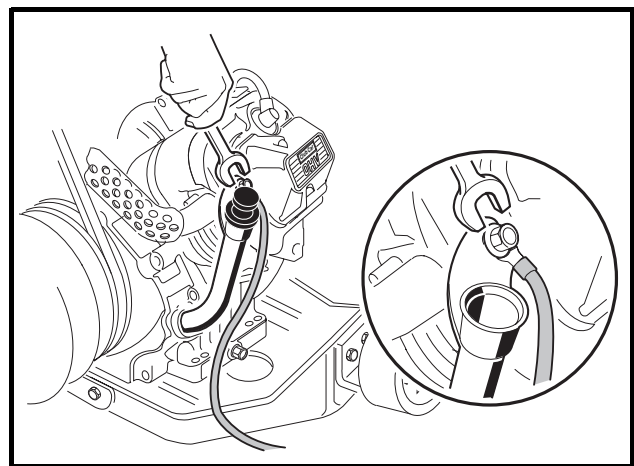

Figure 16-47 Engine Ground Wire
24. Attach the ground wire to the mounting screw on the oil filler tube mounting bracket and tighten to 50 in-lb (5.7 N·m) **(Figure 16-47, Page 16-19)**.